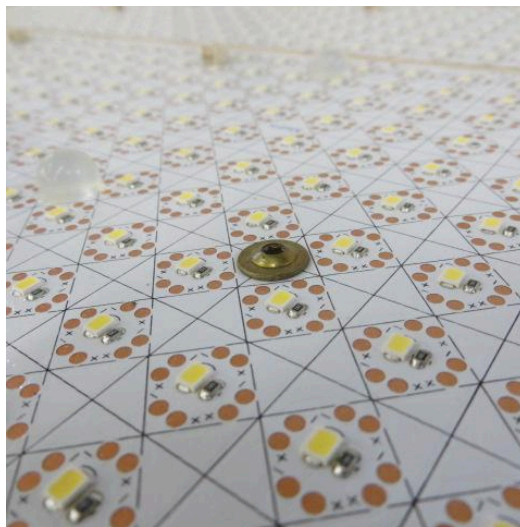

Figure 3
4. Omnify Matrix sheets are backed with 3M tape. This allows sheets to be adhered directly to the surface of the substrate. Screws are not required, but can be used to more permanently secure sheets to the substrate. Insert screws into Matrix squares with a cross. **See Figure 3.** Use only pan head, coned, or round head screws. Tapered screws such as wood or drywall screws will ruin the product.